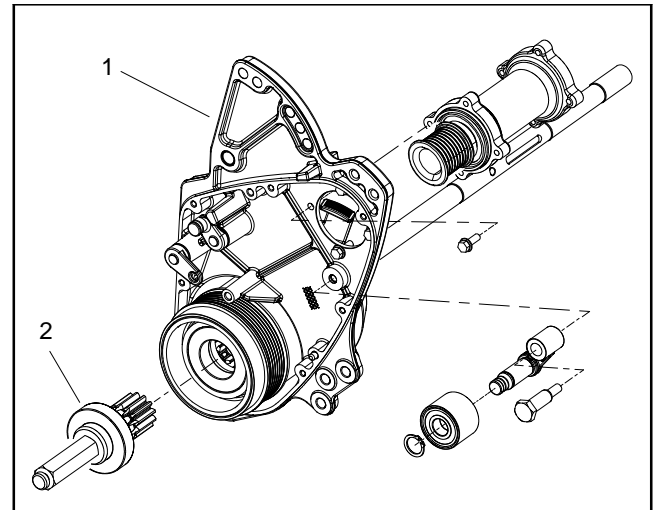

Figure 25
3. Slide spur gear assembly from differential assembly in drum drive housing (Fig. 25).